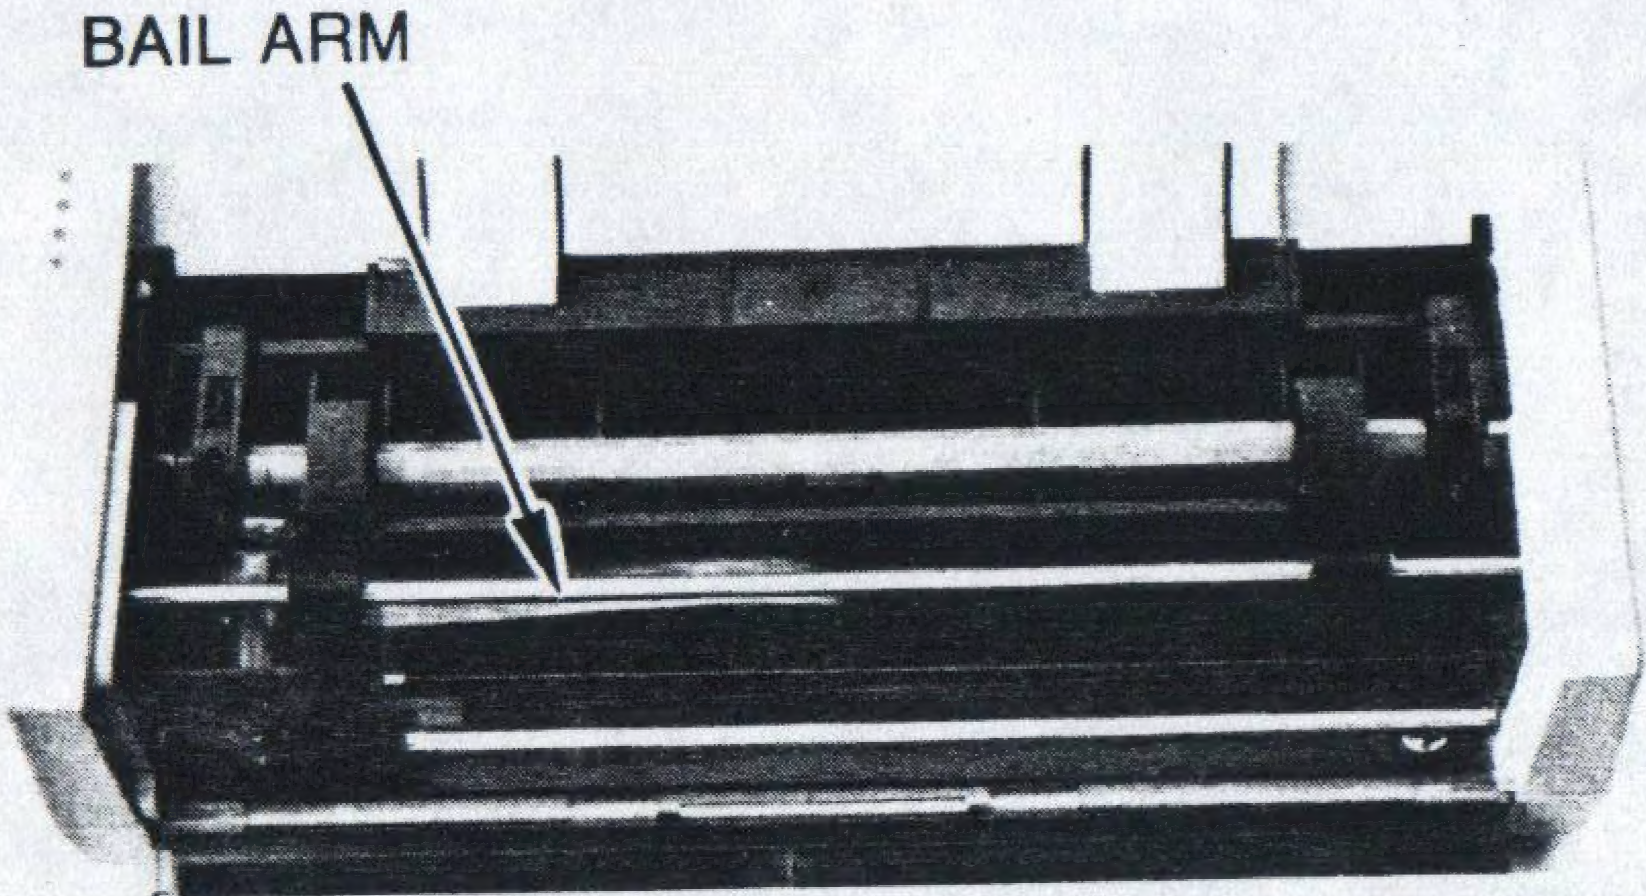

Figure 1-11 Open Bail Arm
- Open the bail arm as shown in Figure 1-11.